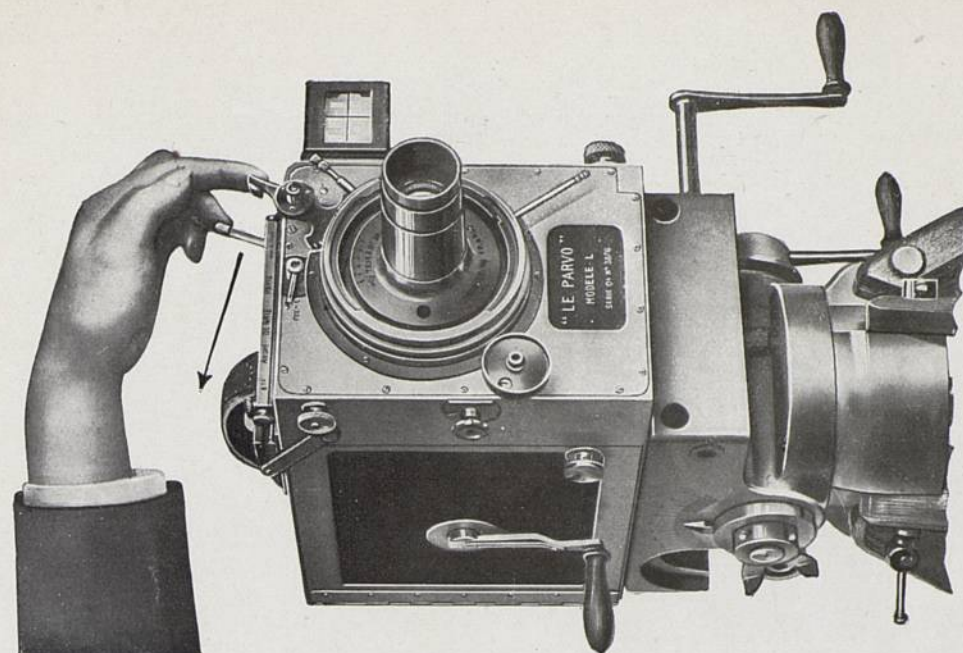

Fig. 3 — To attach the lens
Set this lens of the camera in such a way that button (L) of lens sunshade will engage notch (E) of camera at the same time that the 3 notches (M) on lens will engage the 3 lugs (G) on camera. Hold the lens completely in and push tightening lever (C) to the left. The lens will then be attached. Move focusing rod (A), and ball (K) will engage flange (J) of lens (see Fig. 3).